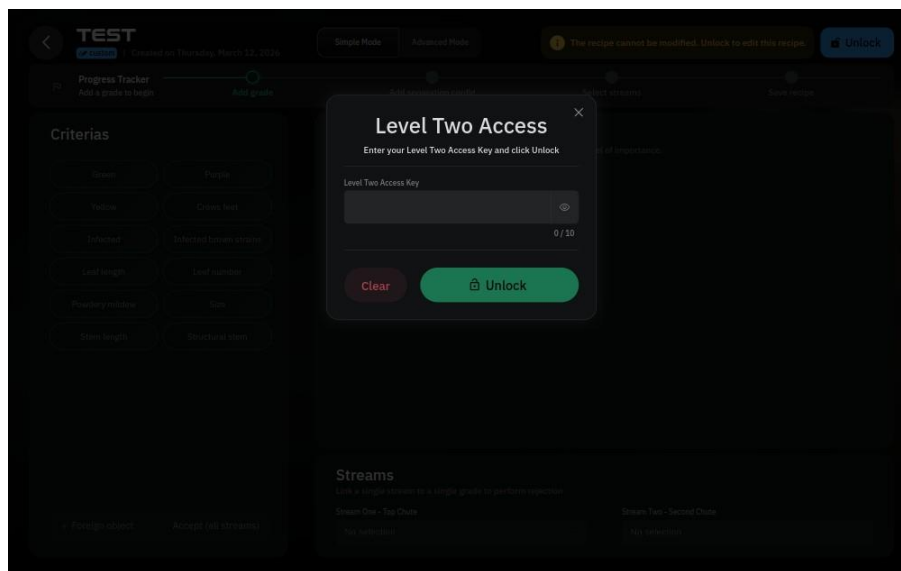

Figure 4.7: Level Two Access Code prompt
1. Click the **Unlock** button in the top-right corner. A Level Two Access prompt will appear (Figure 4.7).